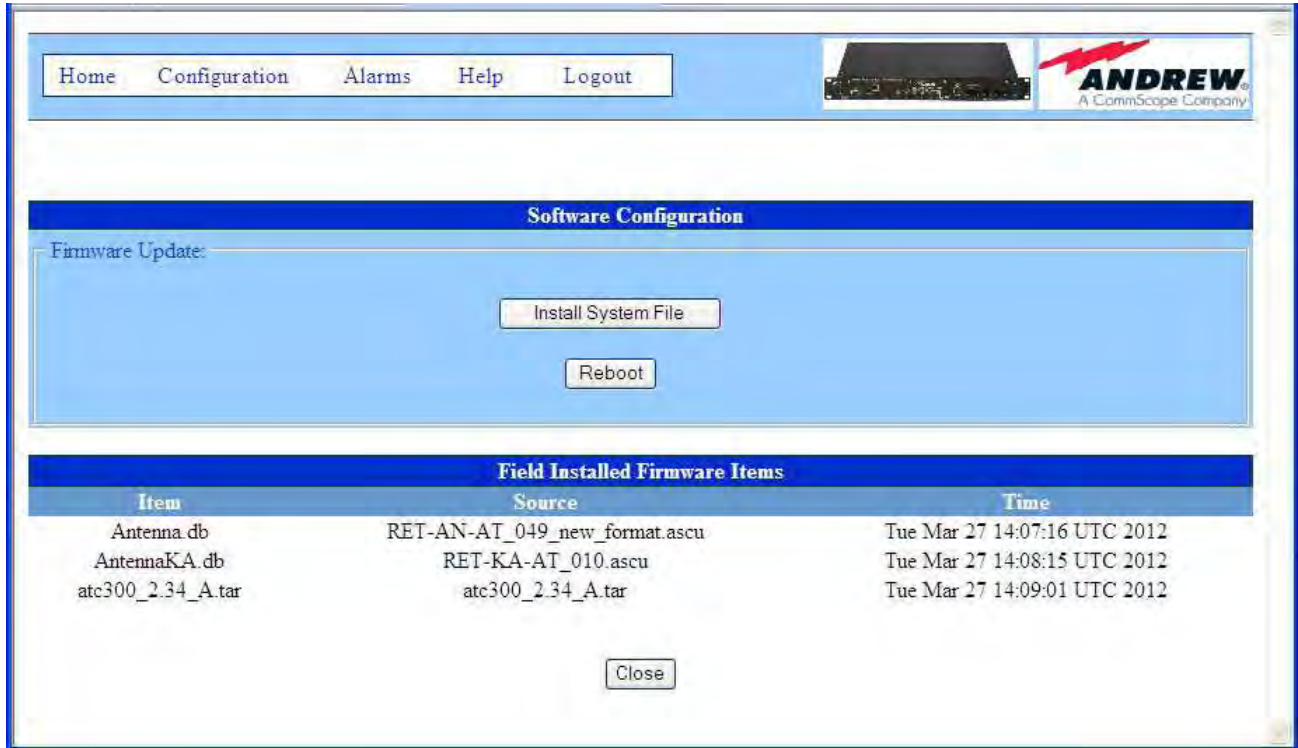

Figure C-3 Software Configuration (ATC300 2.34 and later)
4. (ATC300 2.34 and later) Select **Install System File**, navigate to and select the file to upload to the controller. (Figure C-3)